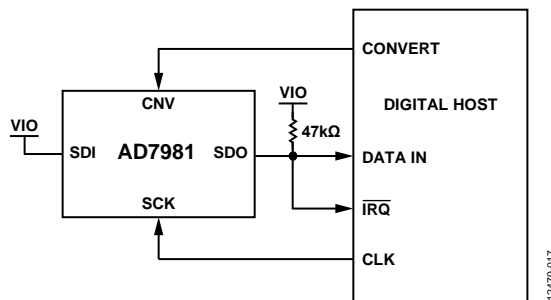
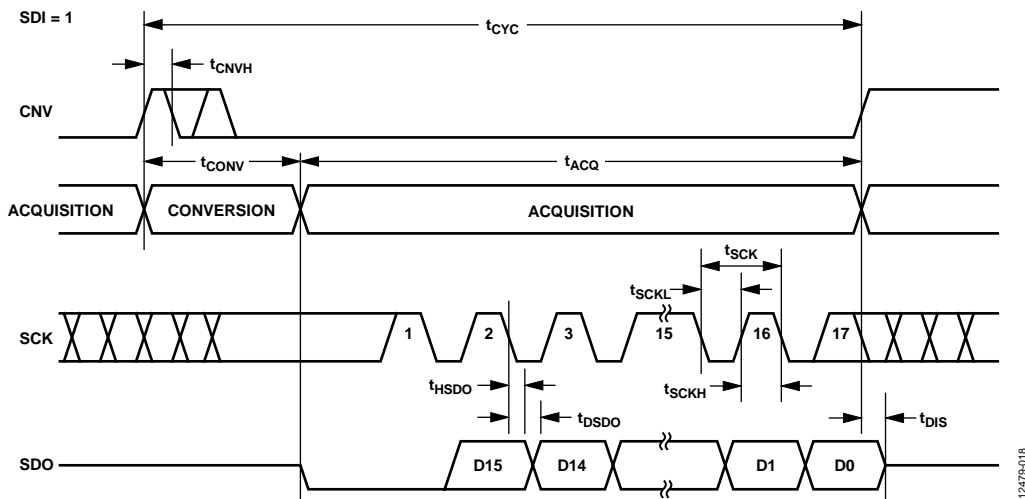
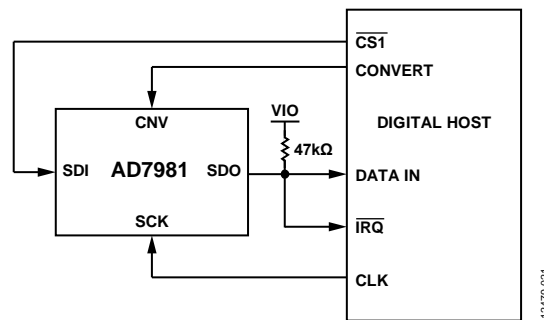
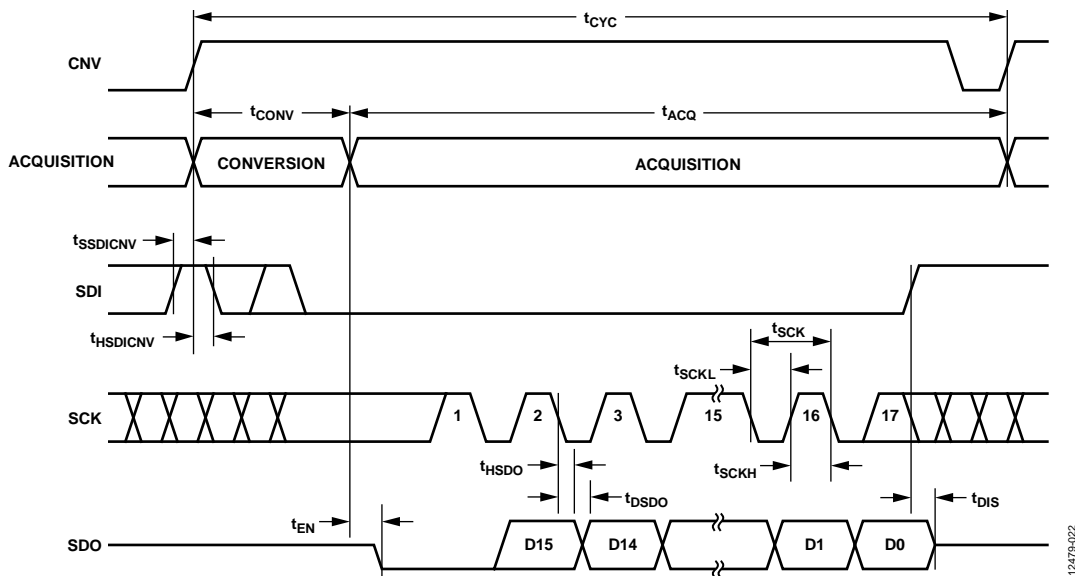

Figure 32. 3-Wire $\overline{\text{CS}}$ Mode with Busy Indicator Connection Diagram (SDI High)
Figure 33. 3-Wire $\overline{\text{CS}}$ Mode with Busy Indicator Serial Interface Timing (SDI High)
Figure 36. 4-Wire $\overline{\text{CS}}$ Mode with Busy Indicator Connection Diagram
Figure 37. 4-Wire $\overline{\text{CS}}$ Mode with Busy Indicator Serial Interface Timing
- In $\overline{\text{CS}}$ mode if CNV or SDI is low when the ADC conversion ends (see Figure 33 and Figure 37, respectively).
The 3-wire $\overline{\text{CS}}$ mode with busy indicator is typically used when a single AD7981 is connected to an SPI-compatible digital host having an interrupt input. The connection diagram is shown in Figure 32, and the corresponding timing is given in Figure 33.
The connection diagram is shown in Figure 36, and the corresponding timing is given in Figure 37.